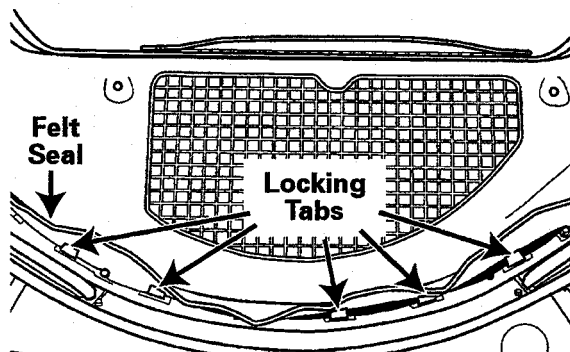

Figure 2-35
3. Remove the old felt seal by prying the locking tabs up with a flat-blade screwdriver, *see Figure 2-35.*